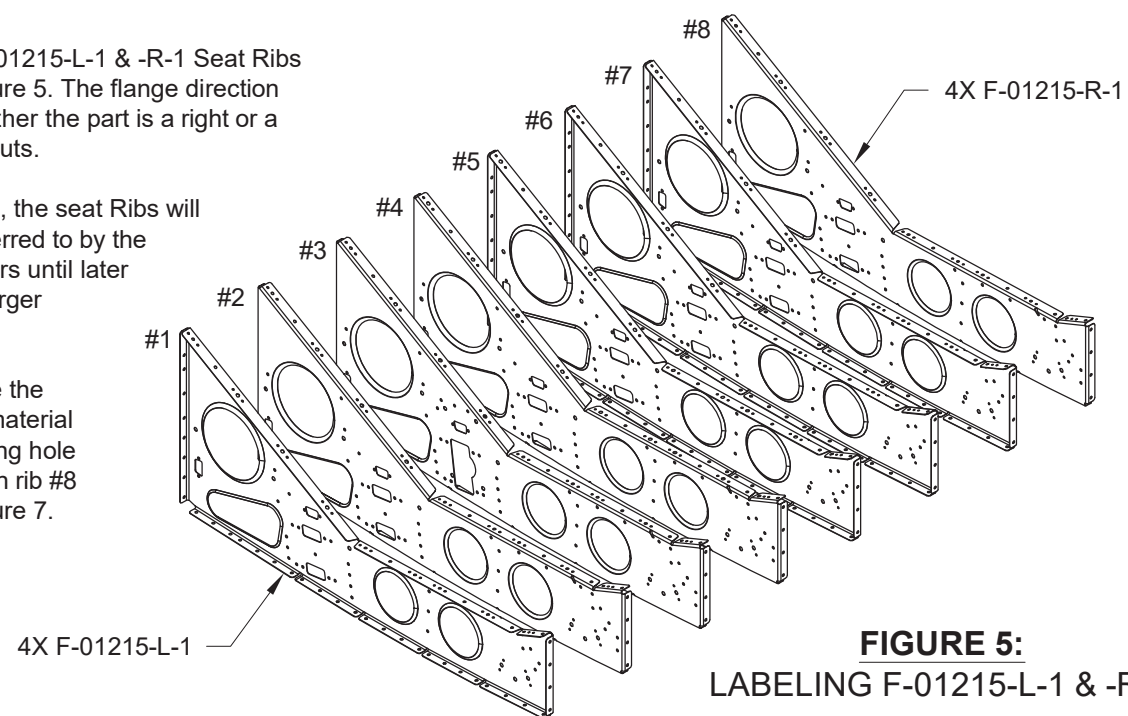

**FIGURE 4: SEPARATING F-00123AB
Step 4: Separate F-00123AB as shown in Figure 4 by removing the hatched areas.